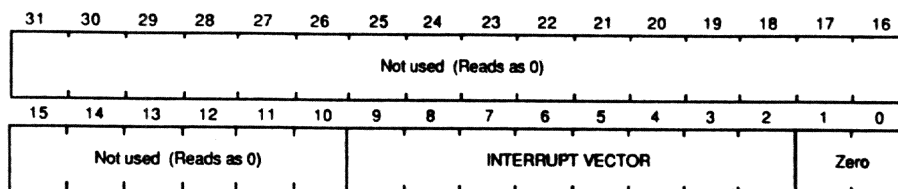

Figure 8-3: Channel Interrupt Register for the MicroDMA
8.3.3.2 Channel Interrupt Register (DCINT) - This register contains the interrupt vector for the MicroVAX processor. Figure 8-3 shows the format of the register.